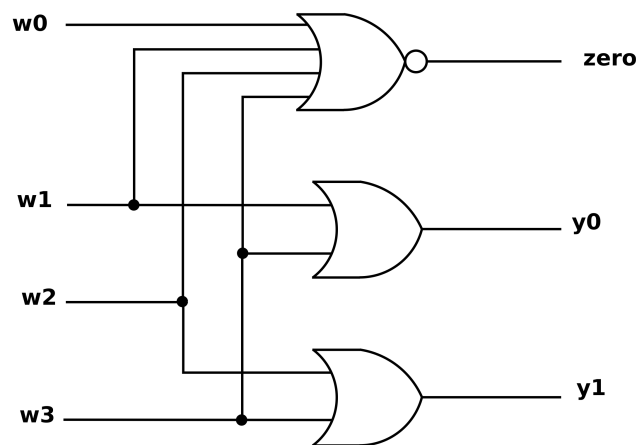

Figure 2: 4:2 Binary Encoder Gate-level Schematic
number into a decoder to power four LEDs. Now that we understand what a binary decoder does, we can surmise what a binary encoder might do. As you may have figured, a binary encoder will transform a *one-hot* encoding back into a binary number. The truth table for a 4:2 binary encoder can be found in Table 2. Notice that unexpected inputs where more than one input signal is HIGH are not shown. Also, a *zero* signal has been provided which indicates when no input signal is HIGH. The corresponding gate-level schematic is shown in Figure 2.
This type of encoder works well when no more than one button is pressed at a time, but what happens when that is not the case? Figure 2 was drawn assuming those inputs would not exist; however, we can use it to determine exactly what the output would be in all 16 button combinations. A pre-lab exercise will ask you to do just that! If we must also handle these extraneous cases, we may want to utilize a priority encoder. Table 3 shows a truth table of a priority encoder which assigns priorities to each input bit. Input bits to the left have a higher priority than input bits to the right.
2. The complete truth table for the gate-level schematic shown in Figure 2. This truth table should not include ‘don’t cares’ (i.e. ‘X’)!